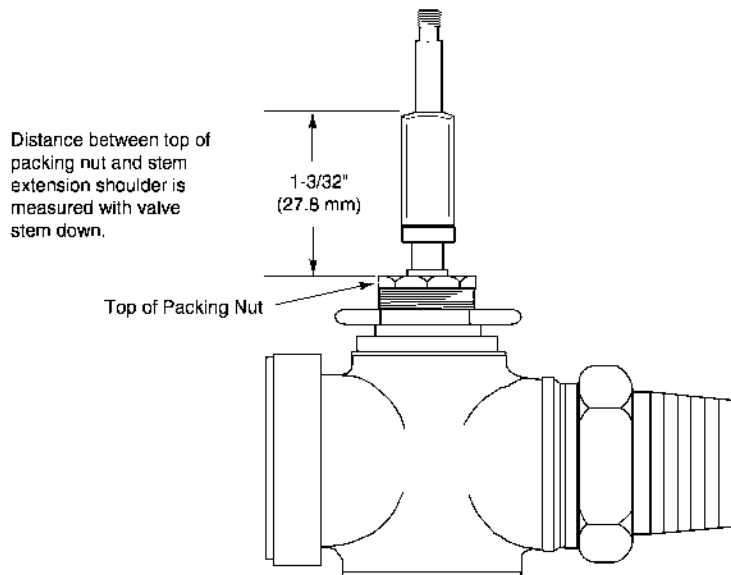

Figure-5 Valve and Stem Extension Assembly.
If an actuator is run or adjusted without being mounted to a valve, the actuator position can be re-established by applying 24 Vac to the actuator (refer to Figure-5 and Table-4):
See Figure-5 for parts identification.
2. Remove the stem extension from the actuator. Screw the stem extension onto the valve stem. Adjust the height of the stem extension to 1-3/32" (27.8 mm). This dimension is the distance from the top of the packing nut to the shoulder of the stem extension (see Figure-5).